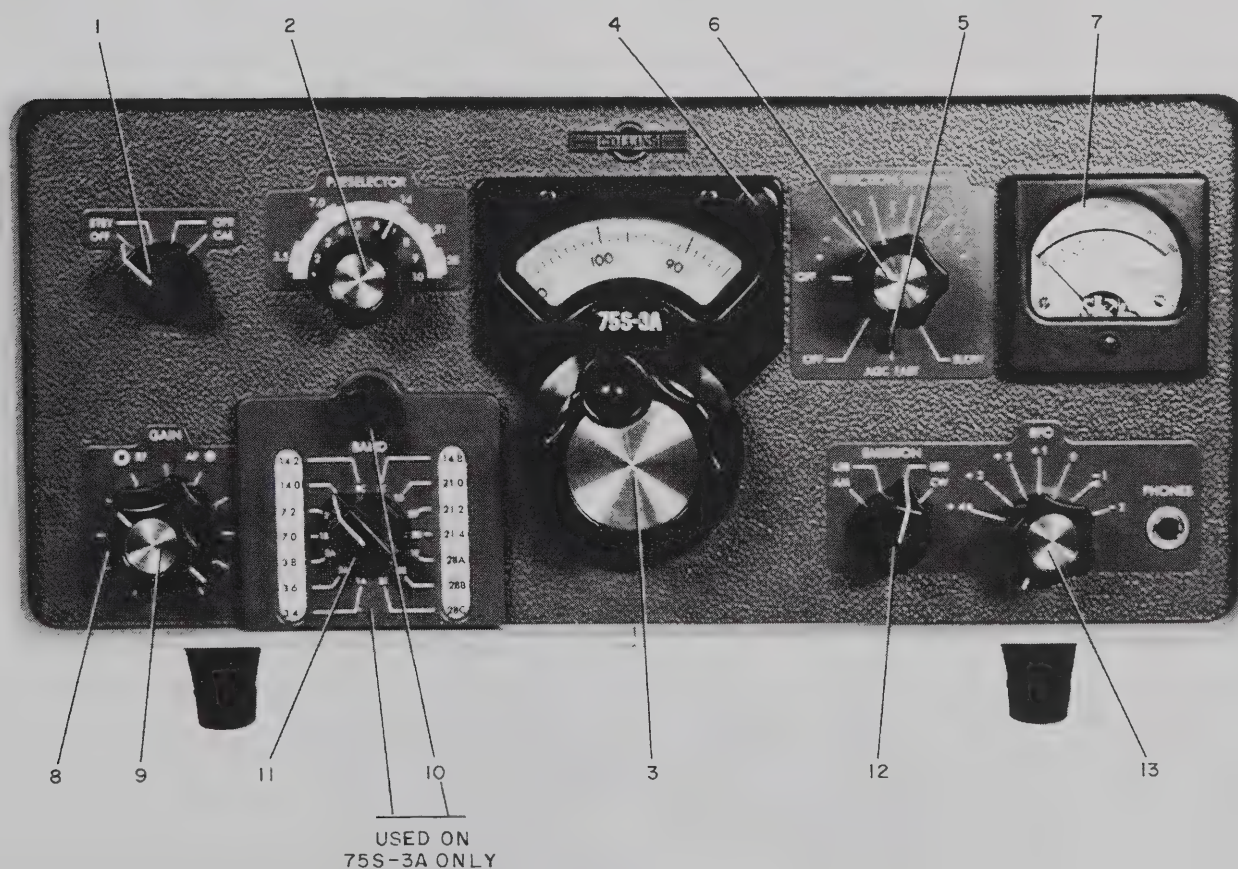

Figure 2-1. Operating Controls
- After making external connections, set controls as shown in figure 2-1.
- Set BAND switch (11) to desired frequency range. If receiver is 75S-3A, set crystal board selector (10) so desired set of bands appears in window.
- Set dial to 0, 100, or 200 with tuning knob (3).
- Adjust PRESELECTOR (2) for maximum signal or noise output.
- Adjust zero set knob (4) until dial is calibrated.
- Set controls as shown in figure 2-1, except set function switch (1) to OPR, and the BFO knob fully counterclockwise until a click is heard.
- Set EMISSION switch (12) to desired sideband.
- Tune in signal and adjust AF GAIN (9) for desired audio output level.